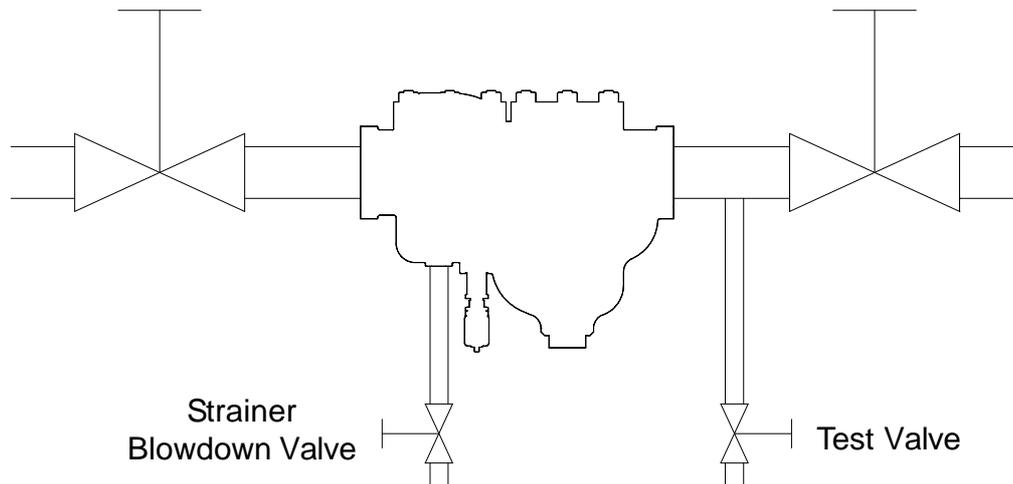

Fig. 6
i. Fit a test valve as shown in Fig. 6.